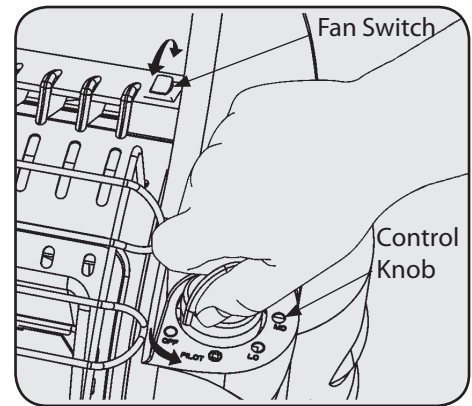

Figure 1
1. Make sure four-position Control Knob is in "OFF" position. See Figure 1.
11. For added heat circulation turn red fan switch to on. The fan switch is located just left of control knob side handle support. See Figure 1.
1. Make sure five-position Control Knob is in "OFF" position. See Figure 1.
6. For added heat circulation turn red fan switch to on. The fan switch is located just left of control knob side handle support. See Figure 1.